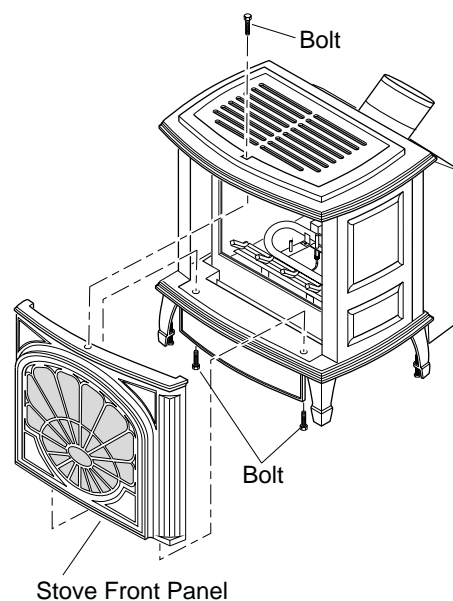

Figure 51 - Removing Front Panel from Stove
1. Remove 2 bolts from bottom of stove and one from the top of stove to remove front panel (see Figure 51).